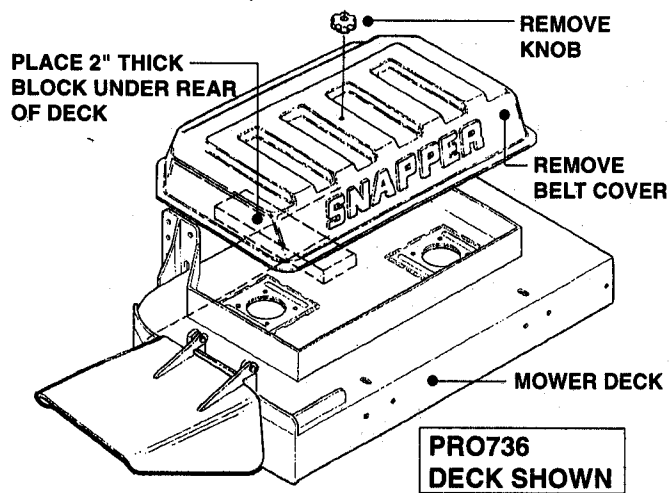

FIGURE 1
- C. Block up rear of Mower Deck with a 2" thick block. See Figure 1.